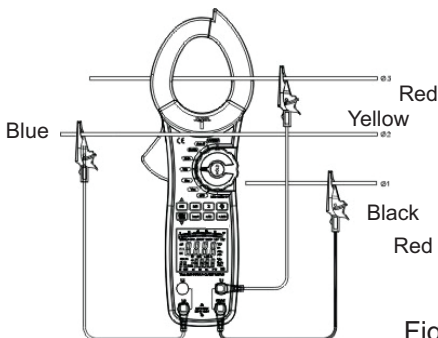

Figure 15
- When measuring 3 phase 3 wires, Hold **SEL** for 5 seconds and the Meter shows **3Ø3W**, press **SEL** again for 5 seconds to exit 3 phase 3 wires, connecting the Meter as figure 15.
In figure 15 $\Sigma W = W2 + W3$.